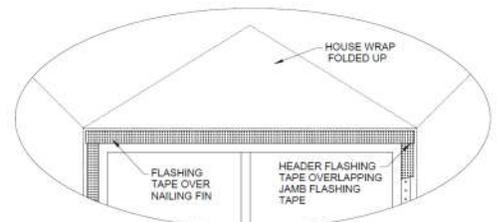

Fig. 4
19. Apply flashing across the head over the nail fin overlapping the jamb flashing. (Fig.4)